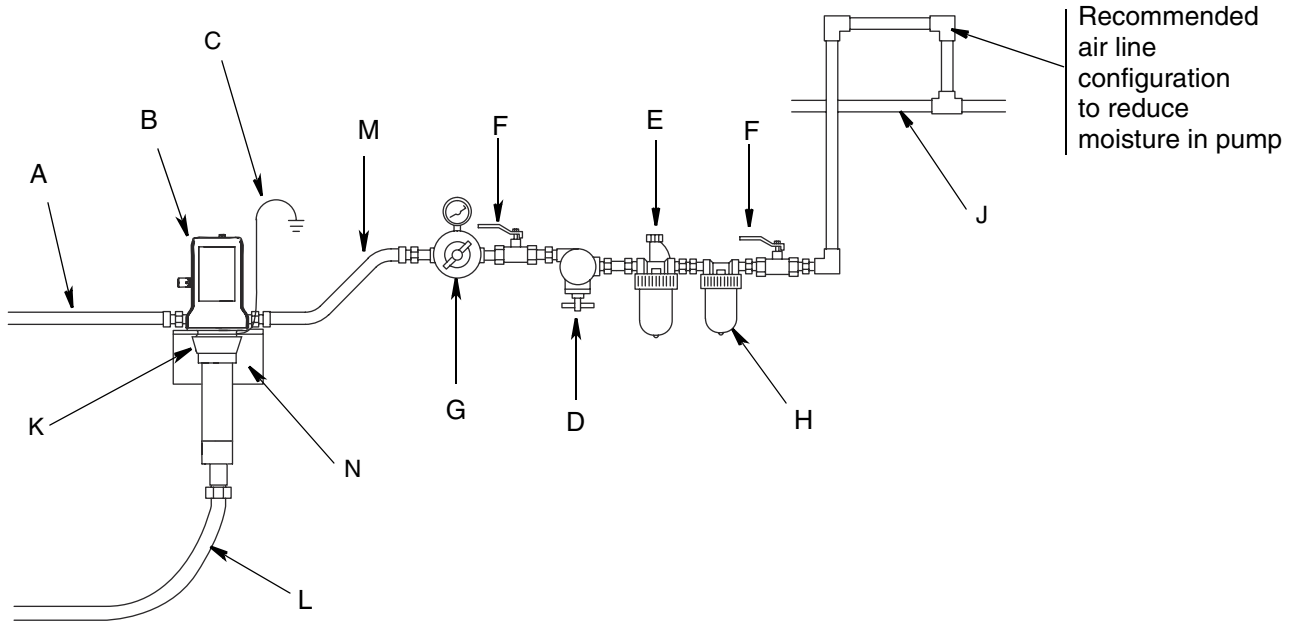

**FIG. 1**
- *Pump:* Use a ground wire and clamp as shown in FIG. 1.
- a. Remove the ground screw (Z) and insert through the eye of the ring terminal at end of ground wire (Y).